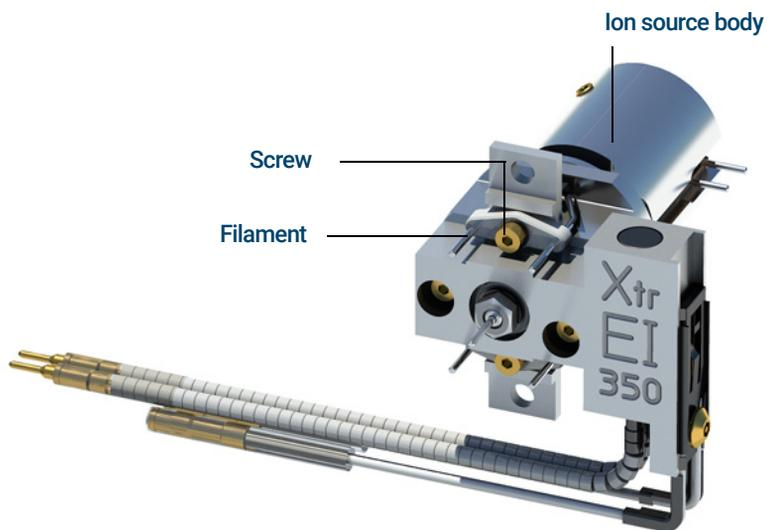

Figure 69. Changing the EI XTR or HydroInert Source filament
- 4 Remove the screws holding the filaments to the ion source body. (See **Figure 69** on page 213.)
- 5 Slide the filaments off the ion source assembly. (See **Figure 69** on page 213.)
- 2 Place the new filament into its position on the ion source body. (See **Figure 69** on page 213.)